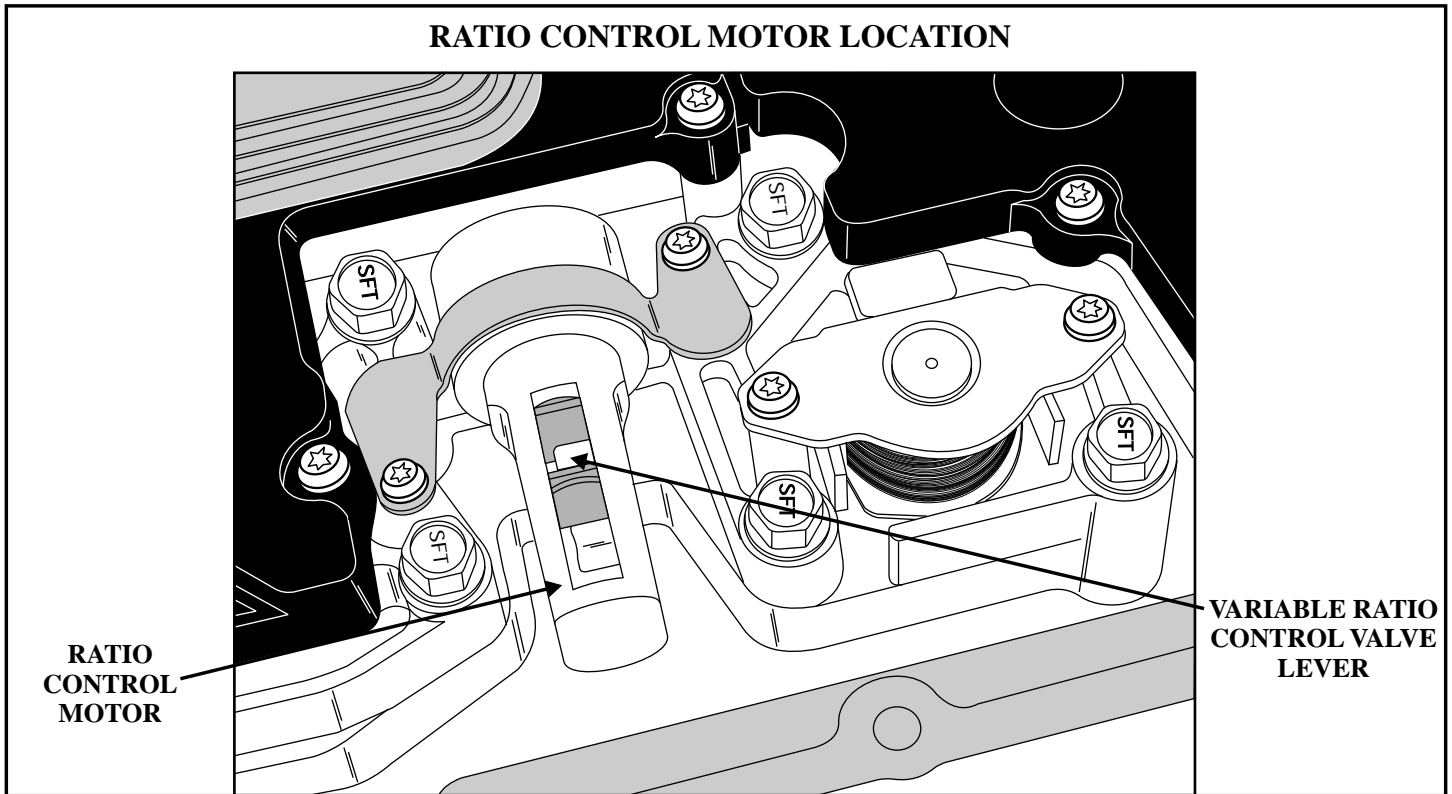
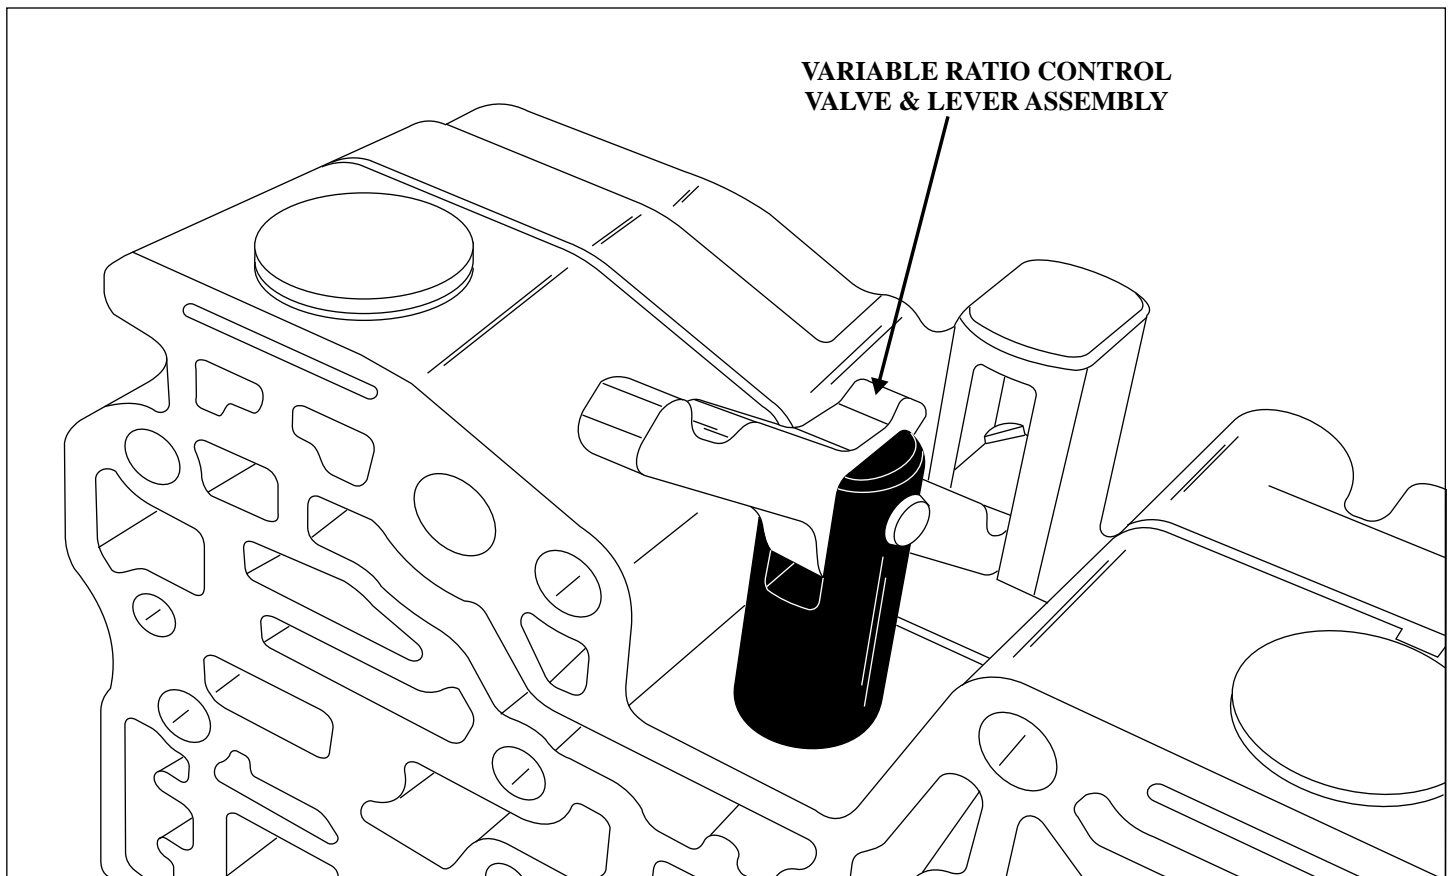

Figure 1
Figure 2
**CORRECTION:** The Ratio Control Motor (Stepper Motor) is a bi-directional device which is located on top of the valve body as shown in Figure 1. The Ratio Control Motor indexes with a lever that is attached to the Variable Control Valve in the valve body as shown in Figure 2.